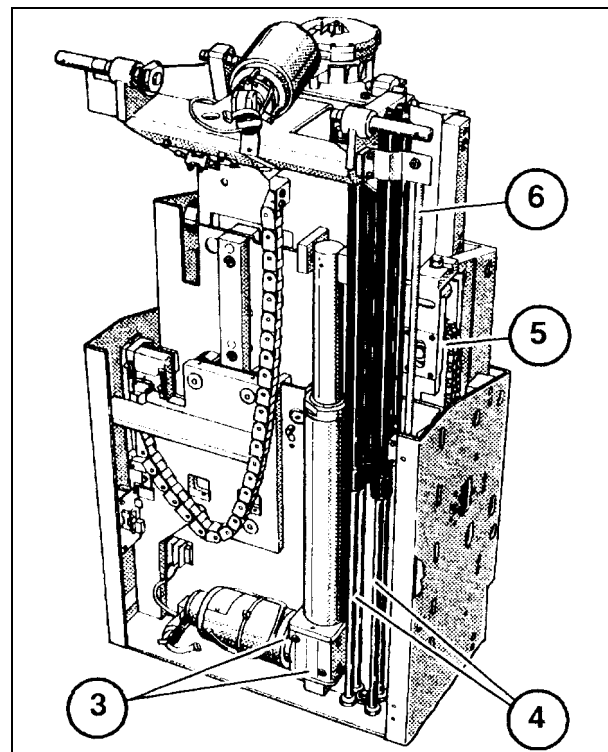

Fig. 3
- Remove the two screws (3/Fig. 3) on the vertical cylinder and lubricate with **LONGTIME PD2**.
- Reinstall both screws (3/Fig. 3) and tighten them.
- Lightly lubricate the polished metal parts (4/Fig. 3) of the gas springs with **OPTIMOL OPTIFLEX ELM**.
- Lightly lubricate the chain guide (5/Fig. 3) where accessible with **LONGTIME PD2**.
- Lightly grease the toothed rack (6/Fig. 3) of the potentiometer drive (r102) with **LONGTIME PD2**.